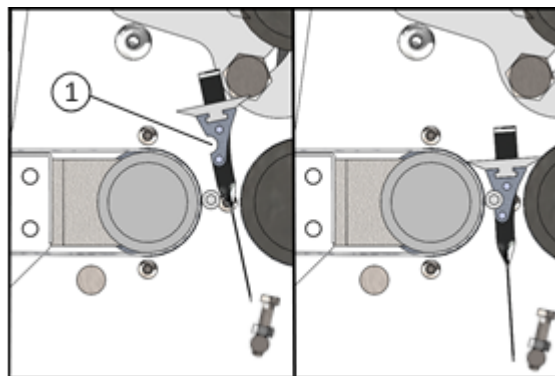

Figure 22
To carry out this operation, refer to the following procedure and to Figure 22:
- To reposition the scrapers, correctly insert them between the pins fastened to the machine shoulders and the lower roller: the recess (Ref. 1 Figure 22) must be on the opposite side of the cylinder. **WARNING: the scraper must be inserted so that the two side blades are located as vertical as possible** (see Figure 22).